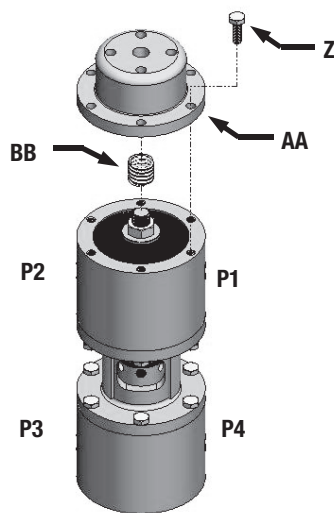

Figure 17
- A. For a VRP-SB-PID-40 (Figure 17), place the Bottom Spring (BB) onto the Jam Nut (P). Secure the Bottom Spring (BB) by fastening the Pressure Cartridge (AA) to the Bottom Body (H) with 6, 1/4-20 x 3/4" HHCS (Z). Torque to 100-110 in.-lbs.